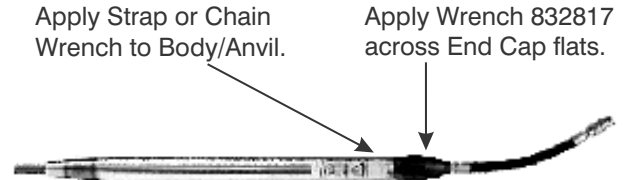

Figure 9-27. Fasten End Cap to Body/Anvil
6. Hand tighten the End Cap (9) to the Body/Anvil (1).
7. Place the Hole-Hog on a level surface. Holding the Body/Anvil (1) with a strap wrench, use wrench P/N 832817 from the Tool Kit to tighten the End Cap (9), as shown in Figure 9-27.